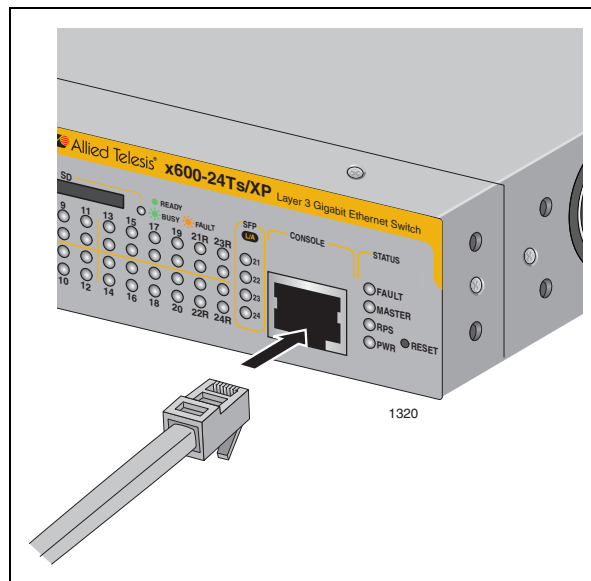

Figure 47. Connecting the Management Cable to the RJ-45 Terminal Port on the Switch
1. Connect the RJ-45 end of the management cable included with the x600 switch to the Terminal Port on the front panel of the switch, as shown in Figure 47.